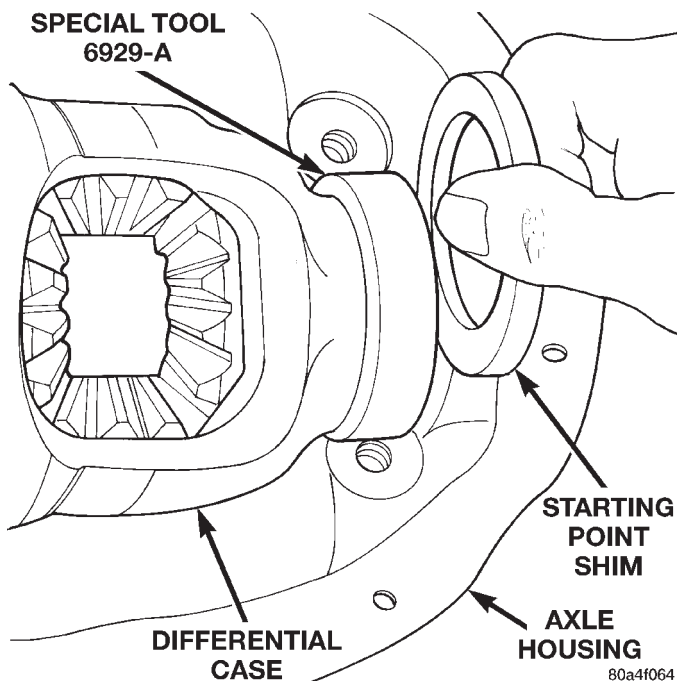

Fig. 82 Preload Measurement Starting Point Shim
- (1) Remove side bearings from differential case.
- (2) Install ring gear on differential case and tighten bolts to specification.
- (3) Install dummy side bearings 6929-A on differential case.
- (4) Install differential case in axle housing.
- (5) Insert Dummy Shim 8107 (0.118 in. (3.0 mm)) starting point shims between the dummy bearing and the axle housing on side of differential (Fig. 82).